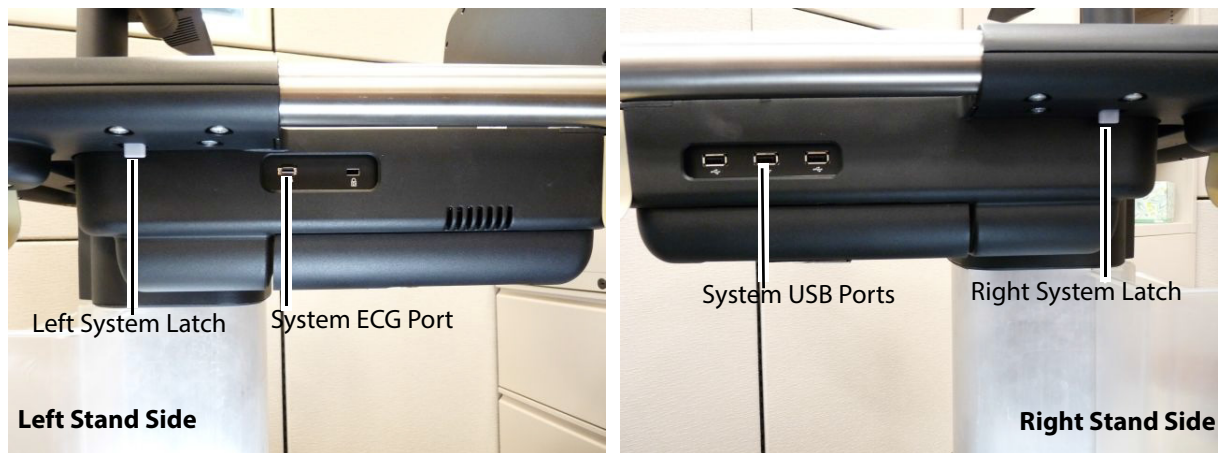

Figure 6.3 System Latch Release & Ports
- 1 Remove any USB devices connected into the right System/Stand side ports as well as the ECG cable connected to the left System/Stand side ports. Refer to Figure 6.3 on page 36.
- 3 Locate the two gray latch levers under the right and left side stand top platform near where the black metal mates to the shiny metal handle. Refer to Figure 6.3 on page 36.
- 2 Remove the X-Porte System (“Engine”) following the steps in the System (“Engine”) Removal section below and refer to Figure 6.3 on page 36.
- 2 Remove the X-Porte System (“Engine”) from the Stand using steps 1-5 under the System section of this chapter. Refer to Figure 6.3 on page 36